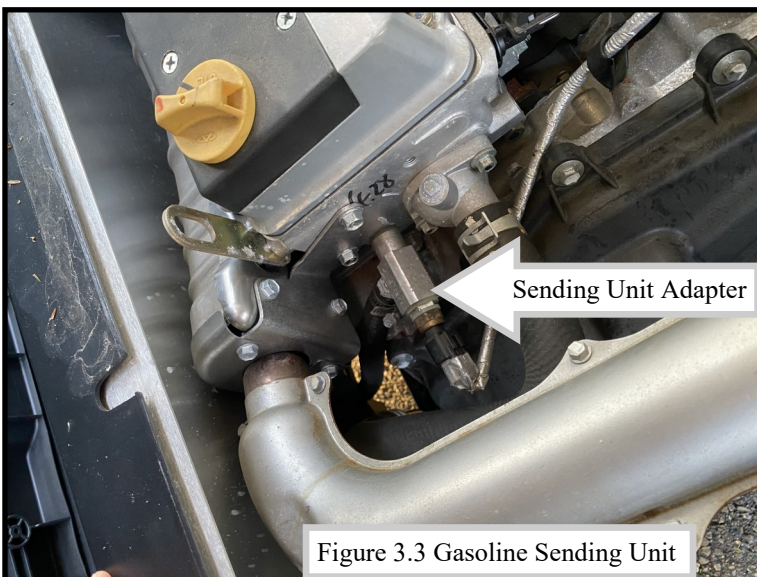

Figure 3.3 Gasoline Sending Unit
3.3 800cc Gasoline Engine: For the supply line into the heater, remove the sending unit. Install the sending unit in the hex bushing of the sending unit adaptor. Install the hex bushing into the end of the adaptor with a large plastic washer. Gasoline models have a heat shield next to the sending unit. The heat shield can be temporarily removed to gain better access. Ref.: fig. 3.3 shows the latest additional guards installed to the exhaust.
Install a small plastic washer onto the end of the sending unit adaptor and install into the engine block where the sending unit was removed. If the sending unit adaptor does not tighten so that the port on the side for the 3/8" NPT nipple points as shown in Figure 3.3, then remove it and install another small plastic washer and try again. Reconnect the sending unit wire.